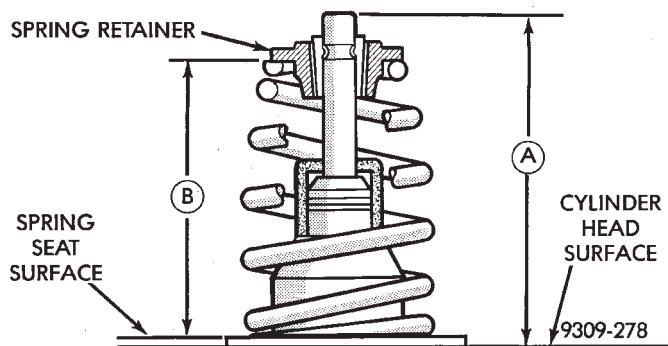
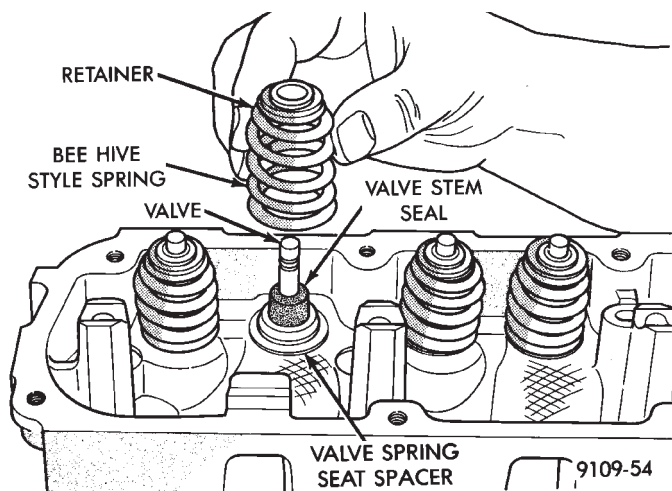

Fig. 39 Checking Valve Installed Height
Fig. 40 Valve Seal and Spring—Installation
(1) Coat valve stems with clean engine oil and insert them in cylinder head.
(2) Check valve tip to spring seat dimensions A after grinding the valve seats or faces. Grind valve tip to give 49.541 to 51.271 mm (1.950 to 2.018 in.) over spring seat when installed in the head (Fig. 39). Check valve tip for scoring, if necessary, the tip chamfer should be reground to prevent seal damage when the valve is installed.
(3) Install valve spring seat spacer on head (Fig. 40).
(4) Install new cup seals on all valve stems and over valve guides (Fig. 39). Install valve springs and valve retainers (Fig. 40).
(5) Compress valve springs with Valve Spring Compressor Tool C-3422-B, with adapter 6412 install locks and release tool. **If valves and/or seats are reground, measure the installed height of springs dimension B, make sure measurements are taken from top of spring seat to the bottom**